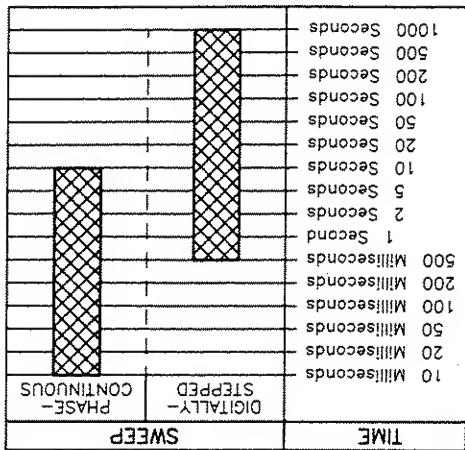

Figure 3-10. Sweep Times for Each Sweep Type.
The graph in figure 3-10 lists the permissible sweep times for each sweep type.
- Enter a sweep time, chosen from figure 3-10, by using the Data keys. (If you choose an incorrect sweep time, the HP 8644A will display an error if the sweep time is out of range, or it will choose the closest allowable sweep time within the range shown in figure 3-10.)